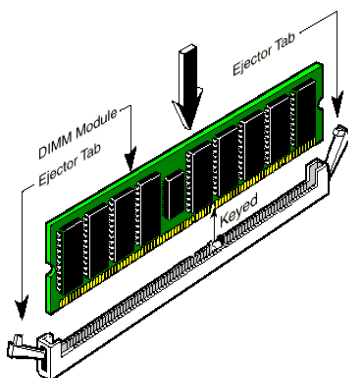

Figure 2-6. DDR DIMM module installation
Step 5. Insert the DDR DIMM module into the expansion socket as shown in the illustration. Note how the module is keyed to the socket. You can refer to Figure 2-6 for the details. ***This insures the DDR DIMM module will be plugged into the socket in one way only.*** Firmly press the DDR DIMM module into DDR DIMM socket, making certain the module is completely seated in the DDR DIMM socket.